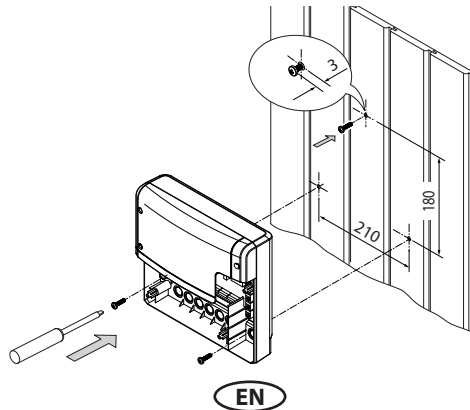

Fig. 2
The holes for the provided 4 x 25 mm screws are to be installed according to the dimensions shown in Fig. 2.
2. Use the upper central screw to hang the relay box. Make sure that this screw stands out approx. 3 mm (detail in Fig. 2).